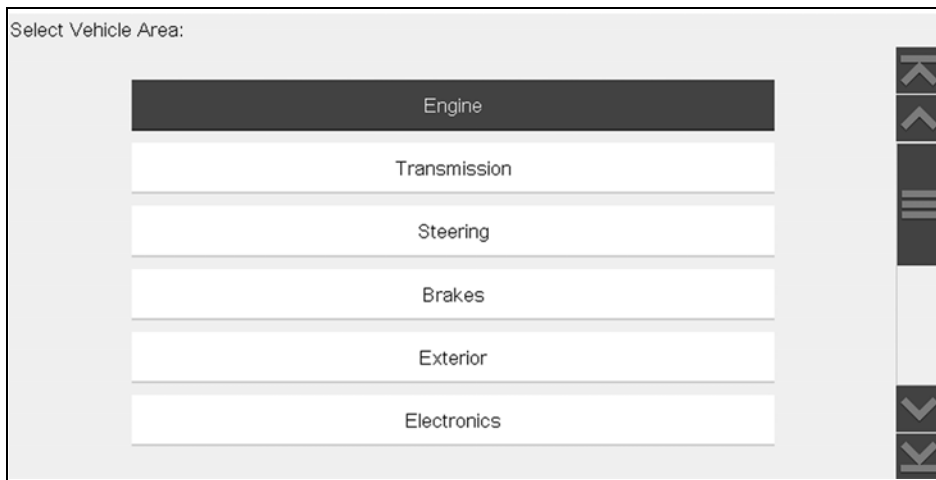

Figure 8-5 Vehicle Area Menu
- Select a vehicle area, (e.g. **Engine, Transmission, Brakes**, etc) (Figure 8-5).